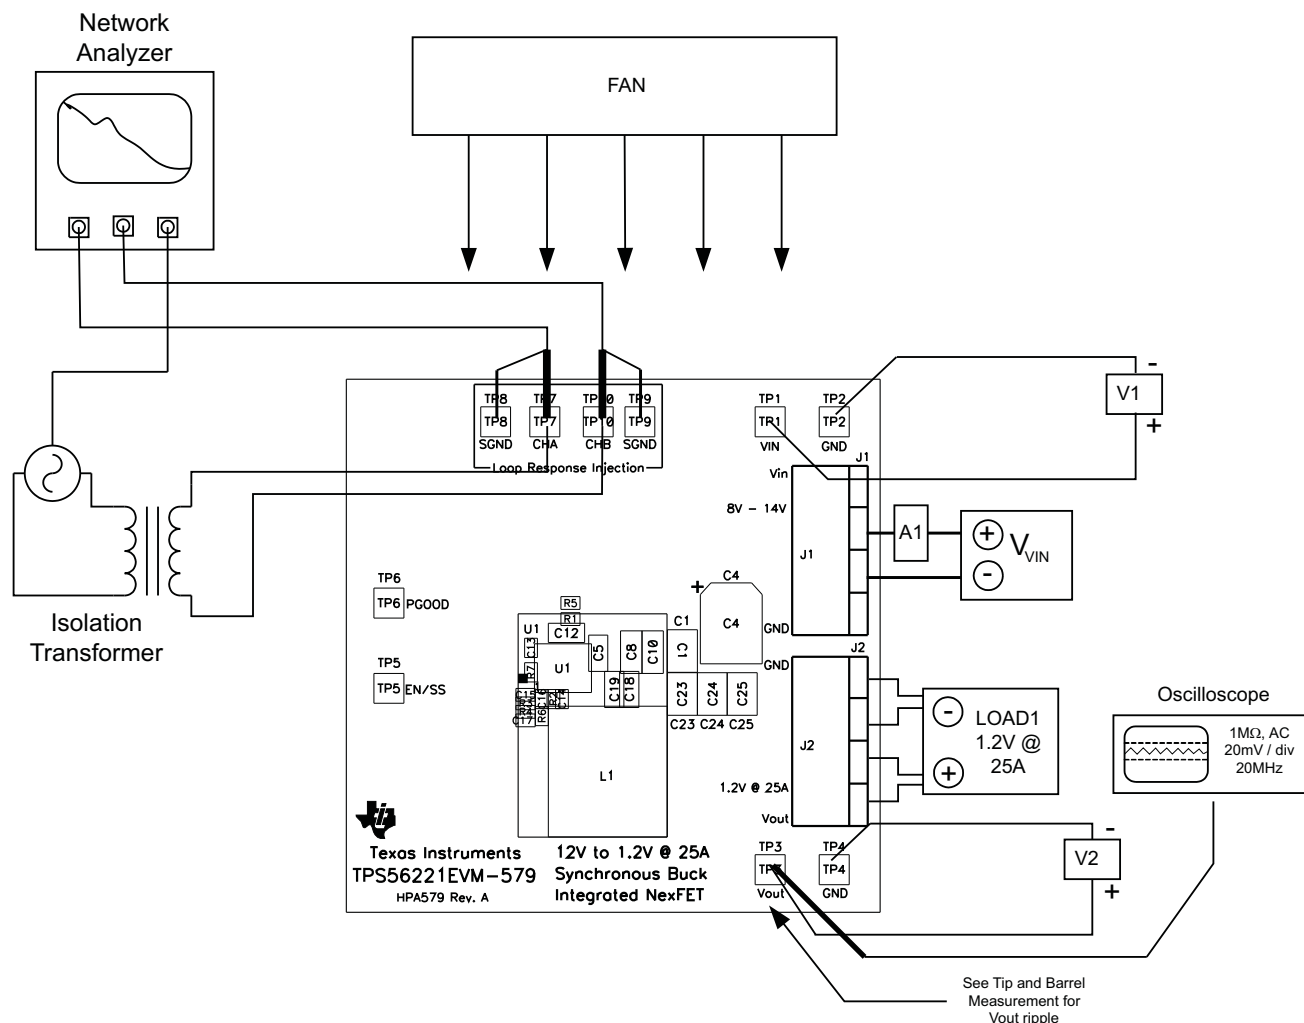

Figure 4. Control Loop Measurement Setup
The TPS56221EVM-579 provides four test points (two signal and two ground) for measuring the control loop frequency response. This allows the user to measure the actual module loop response without modifying the evaluation board. A transformer-isolated signal up to 30 mV can be injected between TP7 and TP10. The injected signal amplitude can be measured by the ac-coupled amplitude at CHA (TP7), and the resulting output voltage deviation can be measured at CHB (TP10). See Figure 4 for additional detail.
2. Connect a 1-kHz to 1-MHz isolation transformer to TP5 and TP7 as shown in Figure 4.
3. Connect input signal amplitude measurement probe (Channel A) to TP7 as shown in Figure 4.
4. Connect output signal amplitude measurement probe (Channel B) to TP5 as shown in Figure 4.
5. Connect ground lead of Channel A and Channel B to TP6 and TP8 as shown in Figure 4.